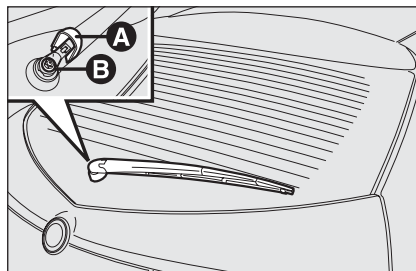

fig. 15
- ☐ raise cover **A**-fig. 15 and remove the arm by loosening the nut **B** that secures it to the revolving pin;